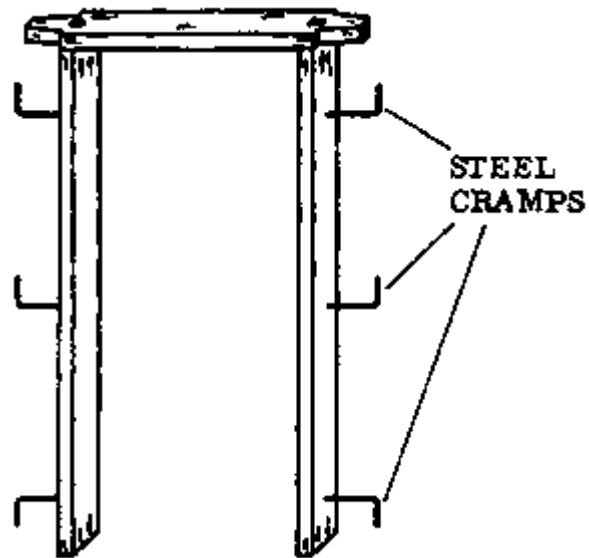

Fig. 1
- STEEL CRAMPS: These are pieces of mild steel rod which are fixed into the door posts (Fig. 1, next page). They are fixed about 60 cm apart; near the head, middle and foot of the frame.